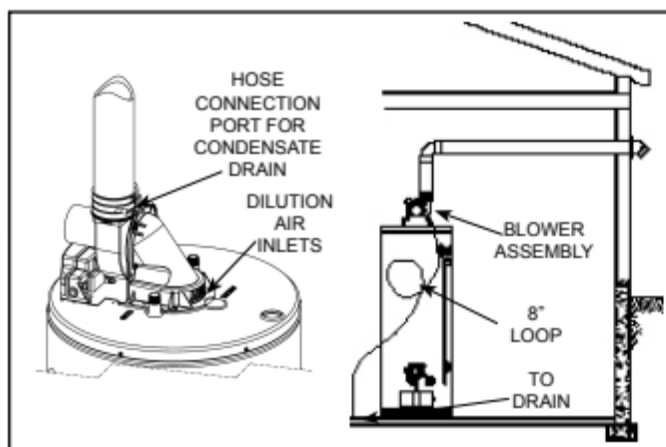

Figure 30.
1. This power vented water heater comes with blower assembly installed (see Figure 30).
This heater requires room air to lower the flue gas temperatures before the gases pass through the vent system. The dilution air inlets are located on the rear of the blower assembly (see Figure 2 & Figure 30).
venting that pass through cool/cold areas will experience condensation. The vent pipe should be sloped upwards away from the blower assembly, then adequate means for draining and disposing of the condensate needs to be made by the installer. If installation conditions cause condensation, install a condensate trap loop approximately 8" in diameter using 3/8" plastic hose. Connect the hose to the built-in drain port of the rubber coupling of the blower assembly (see Figure 30). Loop the hose in a vertical position as shown. The tube loop must be filled with water at least half way prior to operating the heater. Ensure the end of the tube has access to a drain as condensate will flow from the end. Secure the tubing to the side of the heater. Prior to operating the water heater, make sure the removable cap is installed on the drain port (if a drain hose is not needed).